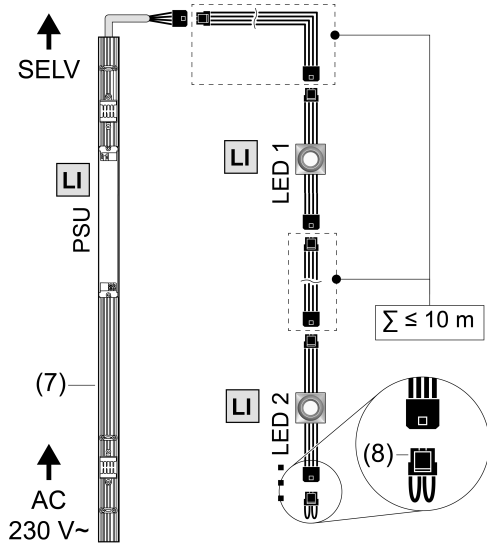

Figure 4: Connection diagram
- To determine the number of light inserts per operating device, use the power index (LI): $LI_{min} \text{ (operating device)} \leq LI \text{ (light inserts)} \leq LI_{max} \text{ (operating device)}$
- Link the light inserts together according to the connection diagram and connect them with a suitable operating device (7) (Figure 4).